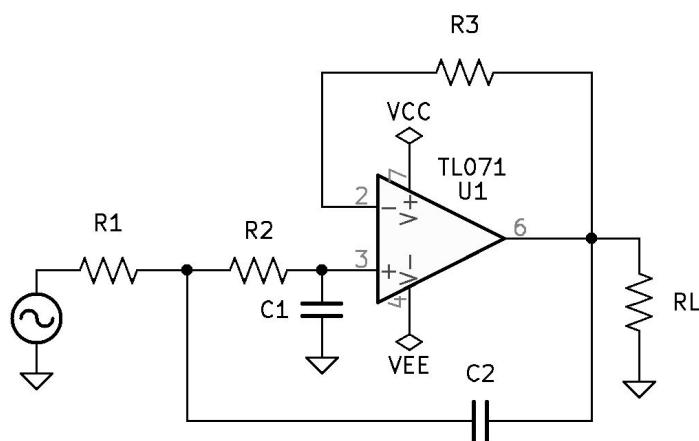

Figure 8.6: Low-Pass Second-Order Active Filtering Circuit.
1. See Figure 8.6 *Low-Pass Second-Order Active Filtering Circuit* on page 87.